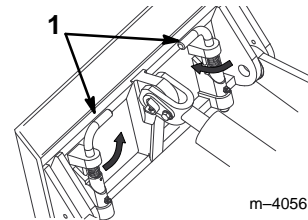

Figure 4
7. Engage the quick attach pins (Fig. 4).